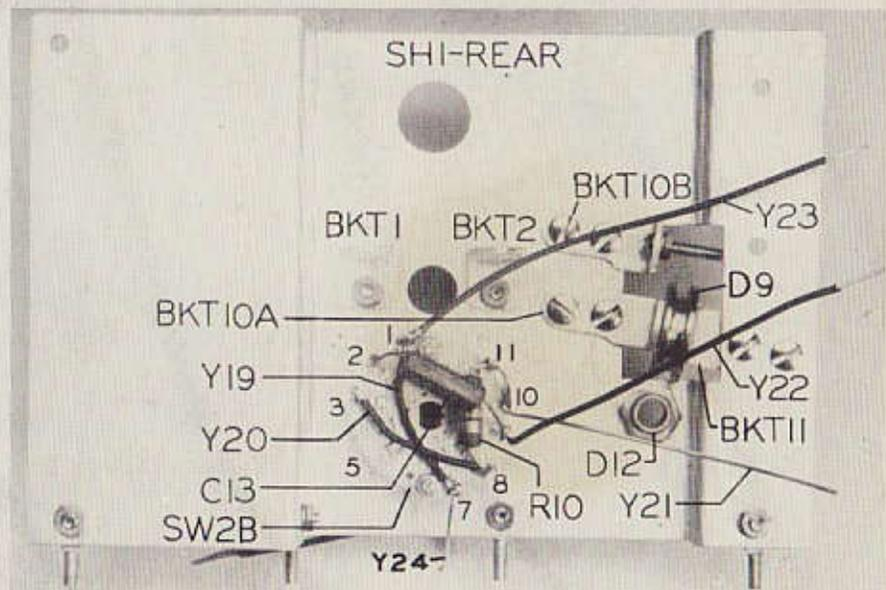

FIG. 1C OSCILLATOR SHIELD-REAR
- (1) Before the oscillator shield, SH1, (see Figure 1C) is mounted, connect and solder a 2 1/2" lead of black plastic wire to contact 4 of SW2B. Train the lead upward if the 40 meter connections are to be completed at this time or fold the lead back on itself neatly if later connection is intended.